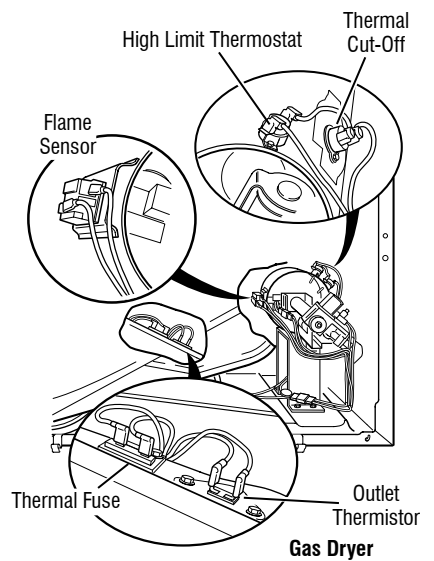

Figure 12 - Thermal components, gas dryer, viewed from front.
- Locate the high limit thermostat (see figure 12). Measure the continuity through it by connecting the meter probes to the red and black wire terminals.